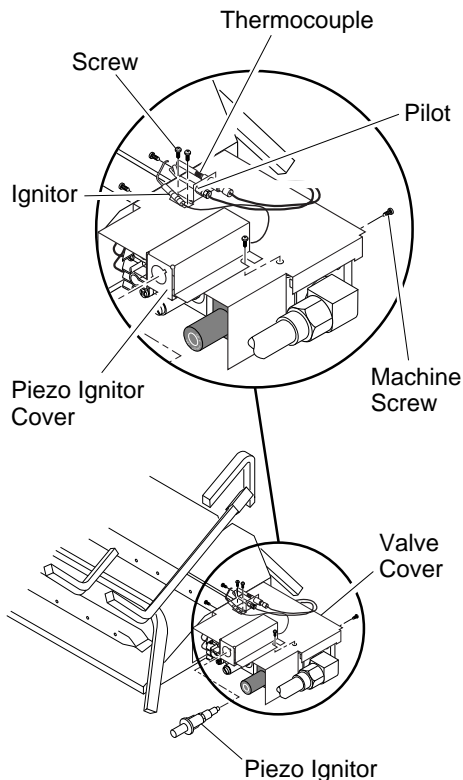

Figure 13 - Installing Thermocouple, Pilot, and Piezo Ignitor Cover
14. Install thermocouple, pilot, and piezo ignitor cover onto valve cover as shown in Figure 13. Use the provided screws.